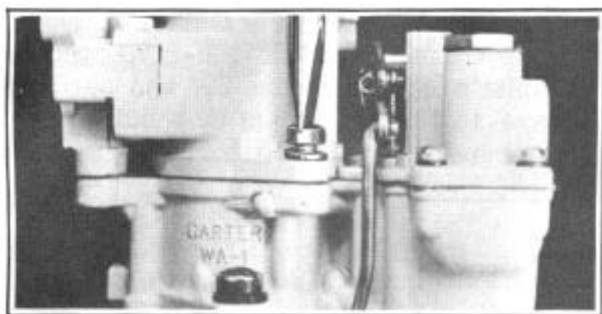

FIGURE 42
24. Install air horn and piston housing assembly, Figure 42. Install screws and lockwashers. Tighten screws evenly.